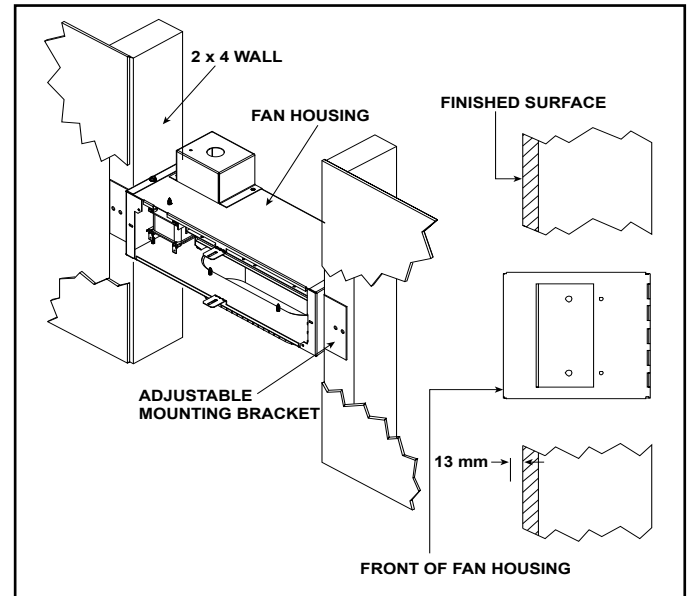

Figure 5.8 Fan Housing Mounting 2 x 4 Wall
**NOTE:** If the fan housing is installed in a 2 x 4 wall, the front of the housing will protrude approximately 13 mm out of the wall. See Figure 5.8.